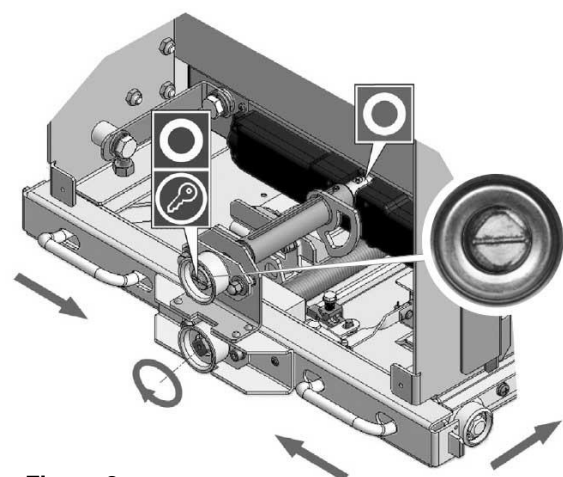
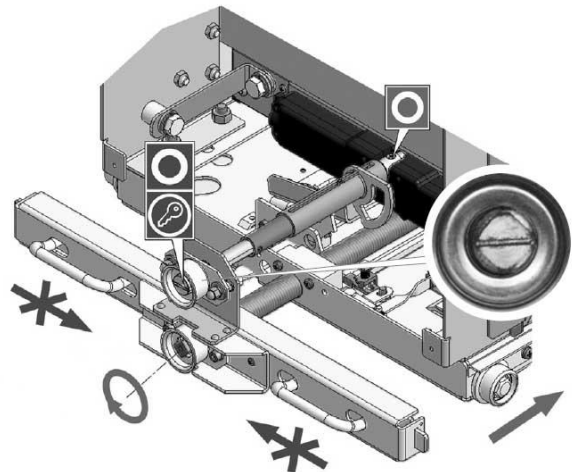

Figure 8
Figure 9
- When the interlocking square head is in locked position (Fig. 8, Fig. 9) the interlocking system is in “Locked” position. In this position the ISM can not be closed (electromechanical interlocks) and the draw-out unit can be moved.
Position A (Fig. 8)
Position B (Fig. 9)